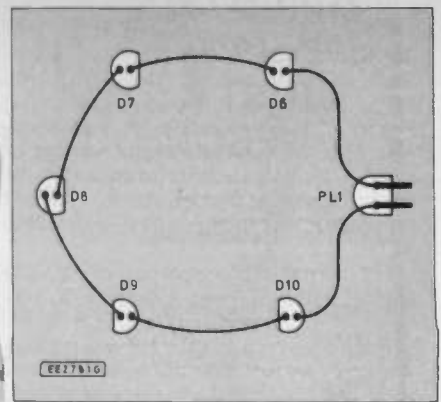

Fig. 5. Wiring up the i.e.d.s to form a display chain.
i.e.d.'s to about 3mm and connect them up in series, observing the polarity of each one, as shown in Fig. 5 using thin single core flex. Insulate the connections on each i.e.d. using Araldite or hot adhesive from a glue gun. Connect the two free ends to PL1 and plug into the main unit.